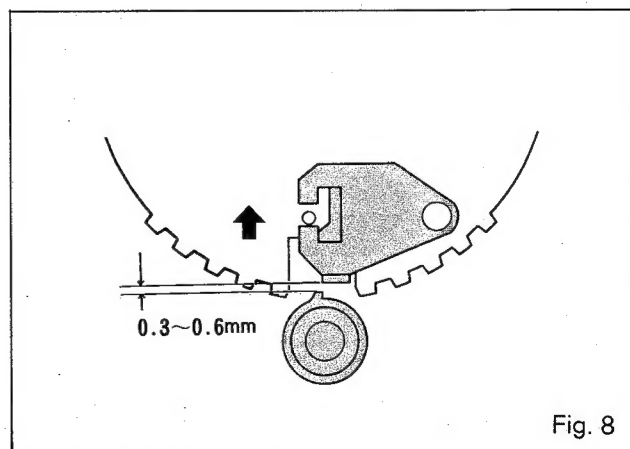

Fig. 8
- Push ratchets A and BL attached to the drive gear as far as possible in the direction of the arrow shown in Fig. 8.
- Move the motor so that the gap between the turntable gear and ratchet A becomes as shown in Fig. 8. and tighten the screws.
- No: Check to see the clearance between gear of motor shaft and ratchet is reasonable (Fig. 8).